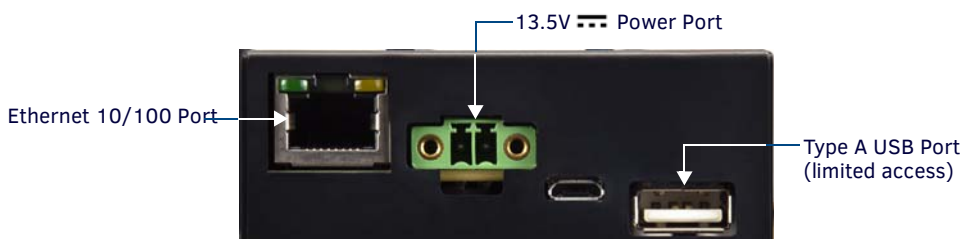

FIG. 31 MXD-2001-PAN / MXD-1901-PAN - rear connectors
7. Insert each connector into its corresponding location along the back of the device (FIG. 31).